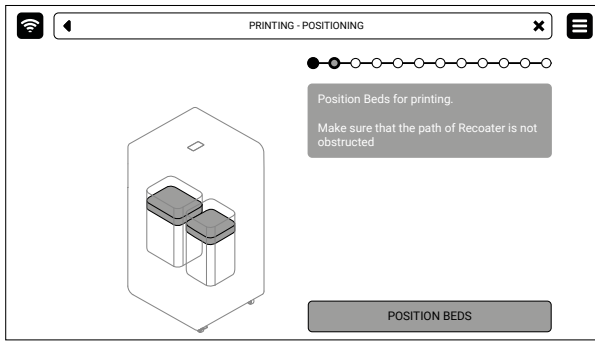

Fig. 6.5 POSITIONING BED screen.
4. Press **POSITION BEDS** to begin the positioning process of the Beds (fig. 6.5).